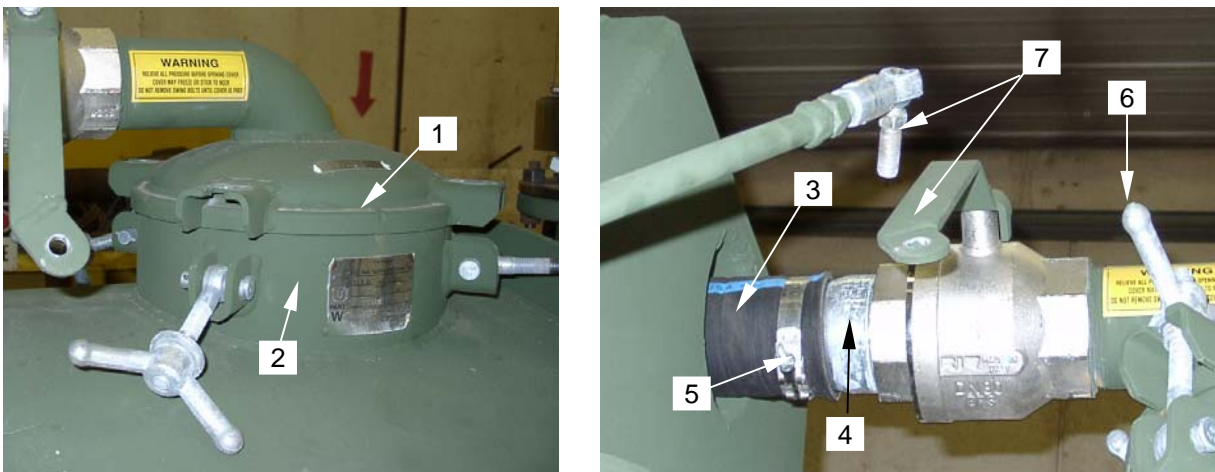

Figure 5. Installing Primary Shutoff and Isolation Valve Assembly
- e. Place the primary shutoff portal lid and isolation valve assembly (figure 5, item 1) onto the portal lid collar (figure 5, item 2).
- f. Install upper air hose (figure 5, item 3) onto isolation valve hose nipple (figure 5, item 4) and secure with hose clamp (figure 5, item 5).
- g. Secure primary shutoff portal lid with wing nut assemblies (figure 5, item 6).
- h. Re-connect isolation valve handle linkage (figure 5, item 7).